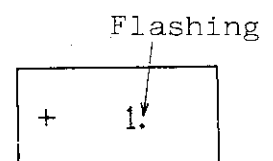

Fig. 20
4. Press the INTVL switch. The display is shown in Fig. 20, and the initial value is 1 (sec).